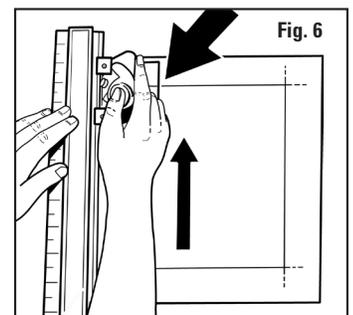

Fig. 6
**4.** Keeping downward pressure on the Blade Holder, slide the Bevel Cutter away from you until the silver line on it intersects with the upper pencil line. Be sure to keep even downward pressure. **Fig. 6**